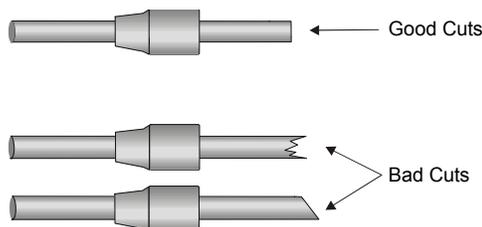

Figure 10 Cutting the Fused Silica Transfer Line
6. In the GC oven, cut the fused silica line within reach of the union. Place the 1/16" stainless steel nut (P/N 0497-2824) on the fused silica line. Cut about 1 cm (3/8") from the end of the fused silica using a wafer scribe (P/N N930-1386) or other column cutting tool. Break off the tubing at the score mark making sure that the break is clean and square. Examine the cut with a magnifying glass and compare it to *Figure 10*.
7. In the GC oven, score and cut the fused silica line within reach of the column connection union. Ensure that the break is clean and square. Examine the cut with a magnifying glass and compare it to *Figure 10*.
6. In the GC oven, cut the fused silica line within reach of the union. Cut the line at least 1 cm (3/8") from the end of the fused silica using a wafer scribe (P/N N930-1386) or other column cutting tool. Break off the tubing at the score mark making sure that the break is clean and square. Examine the cut with a magnifying glass and compare it to *Figure 10*.